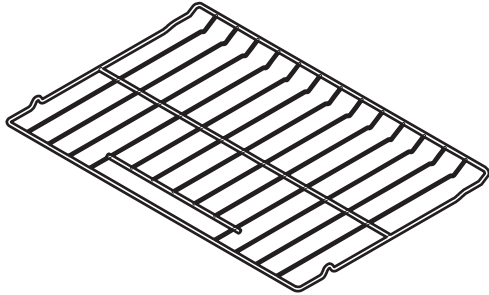
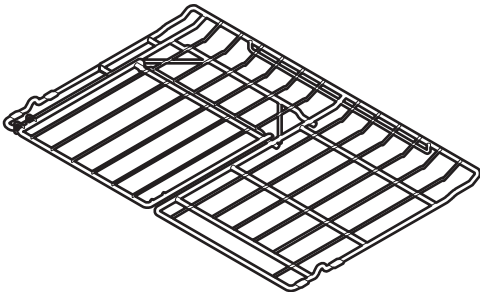
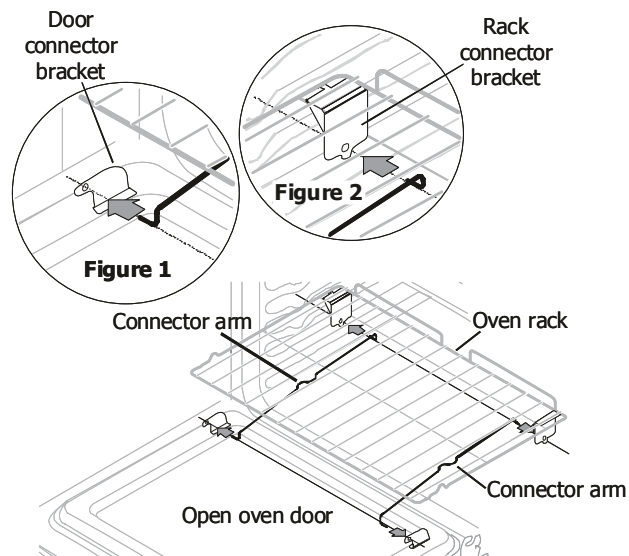

Figure 1
Figure 2
Figure 3 - Assembly of the Effortless™ oven rack
- **Flat handle oven rack** (Figure 1).
- **Flat oven half rack** (Figure 2 & 3).
The **Flat Oven Half Rack** has a removable insert that can provide extra space for larger food items. The right half rack portion may still be used for other food items like a casserole dish (See Figure 2 & 3). To remove the insert, squeeze on the left front insert side (See Figure 5) of the rack and tilt out clockwise. To reinstall, insert rear hooks at back of insert (See figure 5) and lay insert down. Make sure both insert front hooks snap into rack (See figure 6).
3. Place the oven rack in positions 1, 2 or 3 only (see previous page to verify positions). Be sure the rack connector brackets are at the rear of the range and pointing towards oven bottom (See Figure 2).
4. Assemble one connector arm at a time. With the oven door open and the oven rack in place, install one end of the connector arm to the hole in the door connector bracket (Figure 1) and the other end in the hole in the rack connector bracket (Figure 2 and as in Figure 3). The oven rack may need to be adjusted in or out in the rack position to match the length of the connector arm.